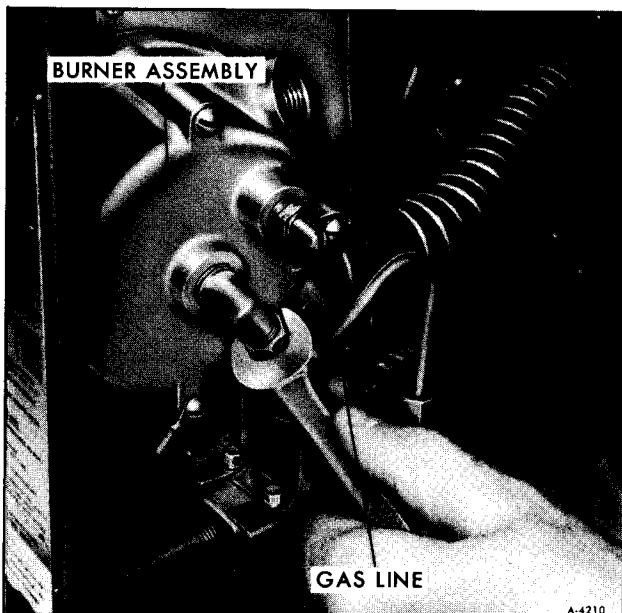

Figure 14—Disconnecting Gas Line from Burner Assembly
2. Disconnect gas line at burner assembly (See figure 14).
3. Connect gas line to burner assembly (See figure 14).